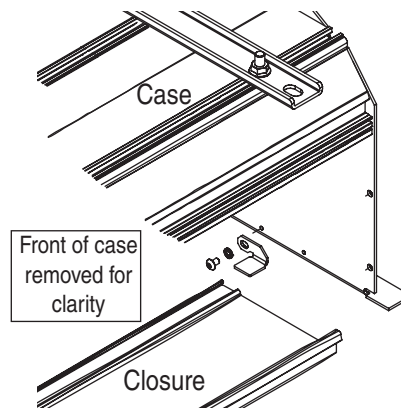

Figure 3
- ① Before removing bottom closure, you must first remove screws at each end of case and slide the closure clips inward, away from the outside of the case (see Fig. 3).
- Reinstall the bottom access panel as previously described (see Figs 3 & 4).